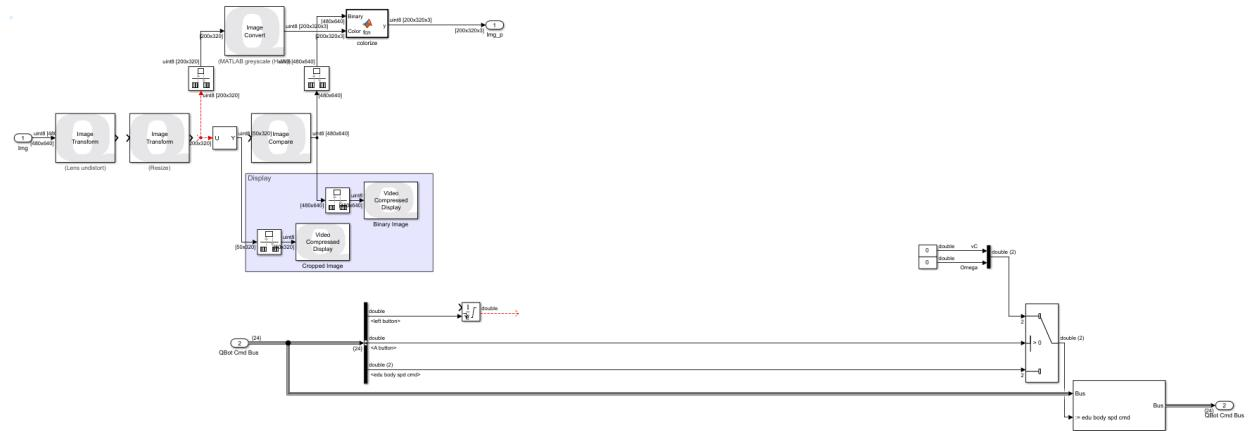

Figure 3. Student Image Processing Block
- Currently, your block should look like Figure 3. It is incomplete and you will fill it as you go through the next sections.